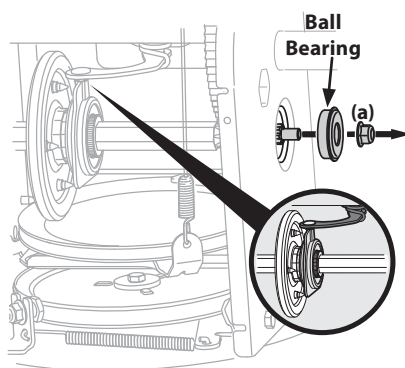

Figure 4-22
5. Carefully remove hex nut (a) which secures hex shaft to equipment frame and lightly tap the shaft's end to dislodge ball bearing from right side of frame. See Figure 4-22.
NOTE: Make sure shift lever pin is in place in bearing housing. See Figure 4-22 inset.